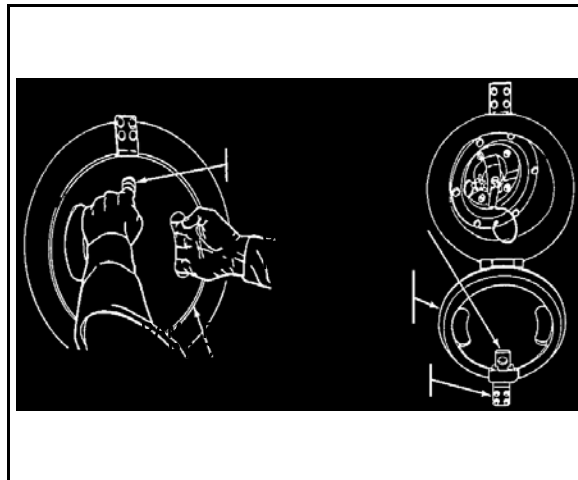

Figure 1. Ramp firing port cover.
1. Open the ramp firing port cover (Figure 1).